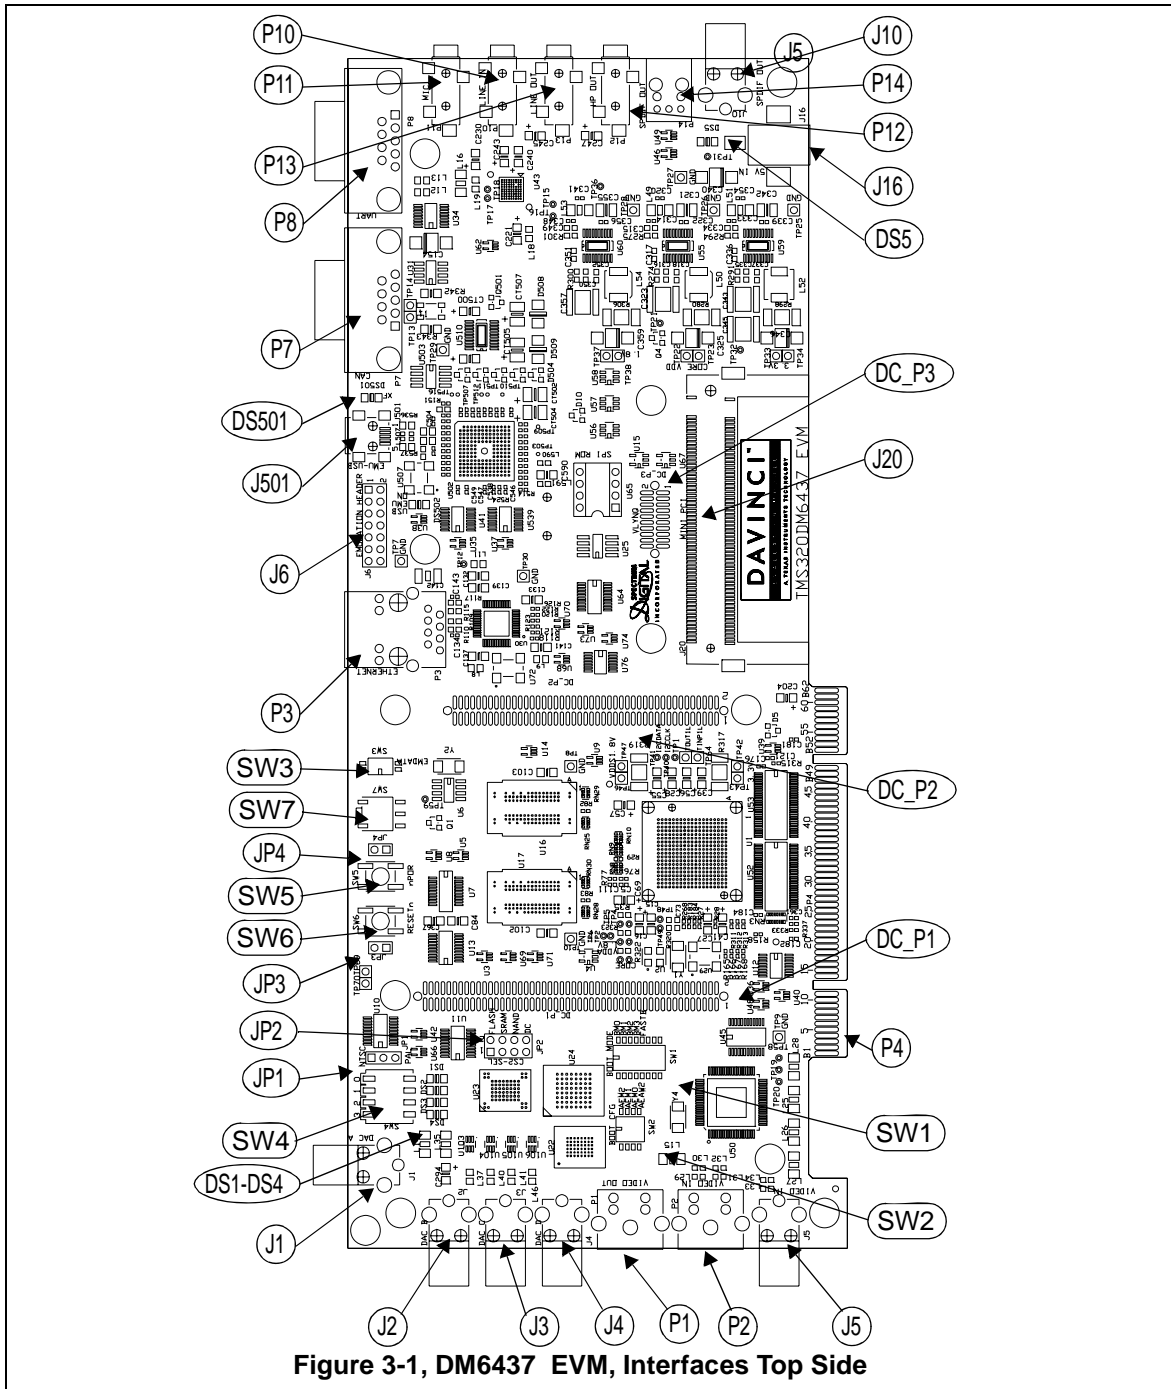

Figure 3-1, DM6437 EVM, Interfaces Top Side
The DM6437 EVM is a 8.75 x 4.5 inch (210 x 115 mm.) ten (10) layer printed circuit board which is powered by an external +5 volt only power supply. Figure 3-1 shows the layout of the DM6437 EVM.